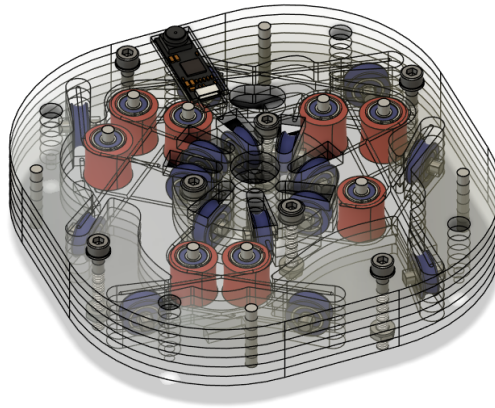

Figure 7: The completed Plates Assembly.
12. Lastly, add TopPlate, affix it with the remaining 4 M3 screws, and press the pinhole camera into place. The assembly should mirror Figure 7.